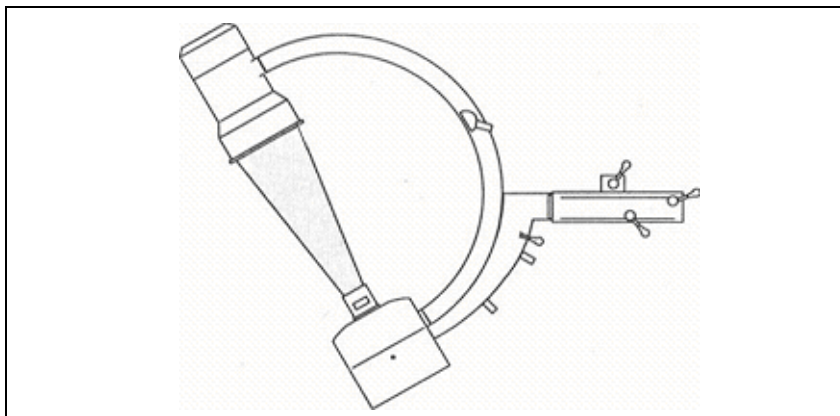

Fig. 9 C-Arm in left position
- Position a dosimeter probe as shown in Figure 9.
- Place the C-Arm in the Left position, shown in Fig. 9, and repeat the previous 4 steps.
- Place the C-Arm in the Left position, shown in Fig. 9, and repeat the previous steps again.